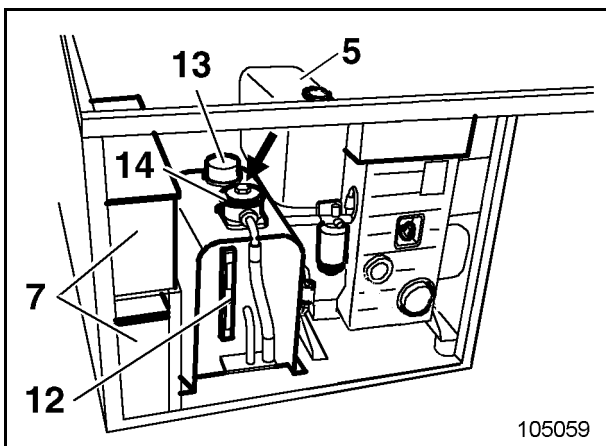

Fig. 3-150:
- Fill up fuel tank through filler (5, Fig. 3-150:) after each deployment.
- Check batteries (7) and cable connections at regular intervals.
- Prior to each deployment, check the hydraulic oil level at the inspection glass (12, Fig. 3-150:); top up if necessary.
- Check contamination of hydraulic oil filter regularly at contamination indicator (arrow, Fig. 3-150:).
- Regularly, but at least once a year replace the hydraulic oil filter (14) and the breather filter (13).